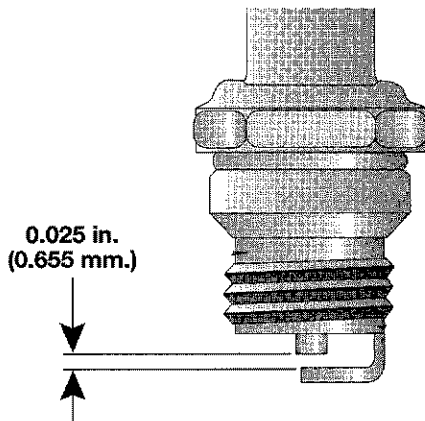

Fig. 57
3. Replace cracked, fouled or dirty spark plug. Set the air gap at 0.025 in. (0.655 mm) using a feeler gauge (Fig. 57).